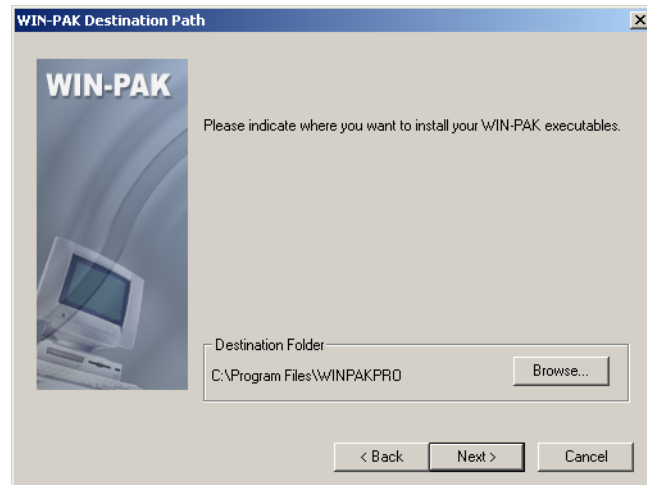

Figure 2-18 *Select Destination Path*
1. On the **WIN-PAK Setup Type** screen, select **Database Server Only** and click **Next**. The system checks for SQL Service status and displays screen shown in *Figure 2-18*.